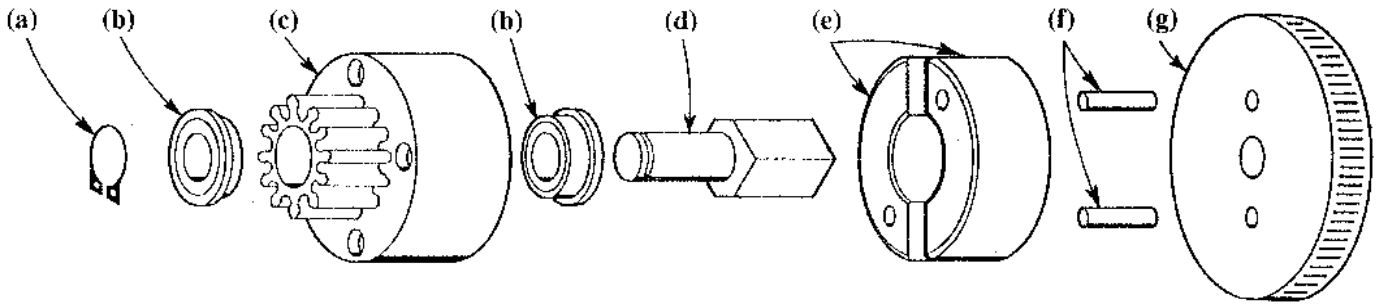
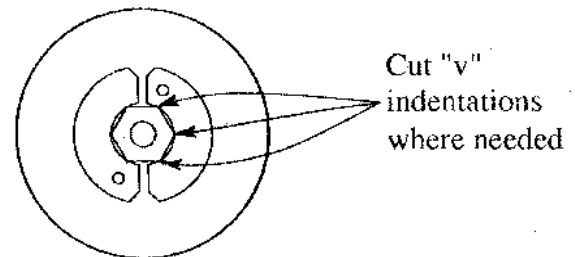

fig. 1
fig. 2
STEP 4 Slip the two clutch shoes (e) onto the pins in the direction shown (fig. 1, fig. 2). Push the bearings (b) firmly into the clutch bell (c).
Trim them properly by just cutting small "v" indentations inside your clutch shoes where they touch the edges of the hex portion of the clutch nut (fig. 2).